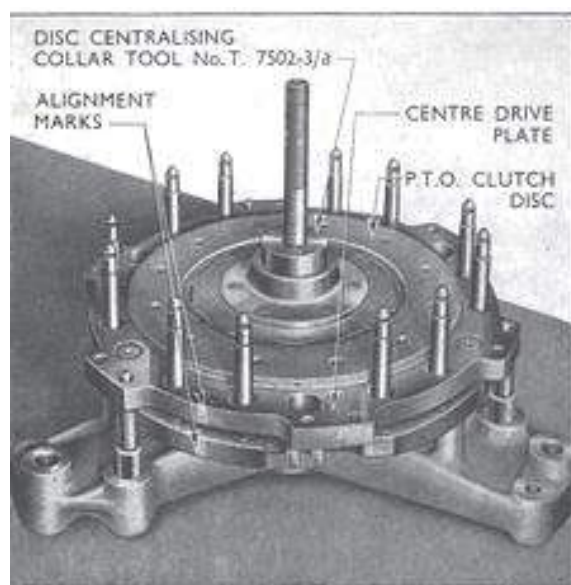

Fig. 9
4. Aligning the marks made on the centre drive plate and transmission pressure plate at the time of dismantling (see previous Note), locate the centre drive plate on the fixture so that the driving pins engage in the transmission pressure plate slots and the fixture locating pegs fit in three of the plain holes at the edge of the centre drive plate (see Fig. 9).
5. Locate the P.T.O. clutch disc centralising collar (Tool No. T.7502-3/a) on the fixture centre spindle, ensuring that the collar abuts the shoulder of the spindle. Place the P.T.O. clutch disc, hub upwards, on the centre drive plate, locating the bore of the disc hub on the centralising collar (see Fig. 9).